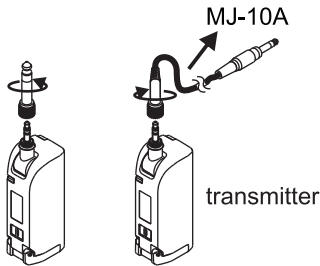

Fig. 42-1 Fig. 42-2
- (A) Remove the 6.3 Ø input phone plug adapter from MT-58, Fig. 42-1.